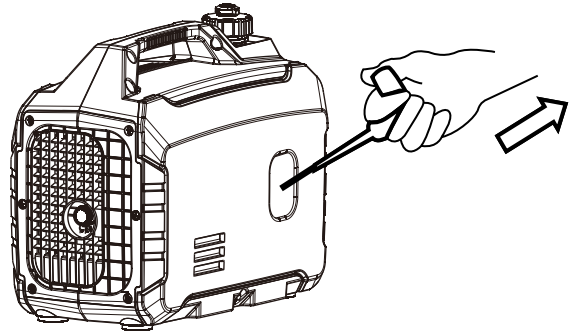

Figure 8: Pull the Recoil Handle out from Inverter
6. Firmly grasp and pull the recoil handle slowly until you feel increased resistance. At this point, apply a rapid pull while pulling out from the inverter (see Figure 8).